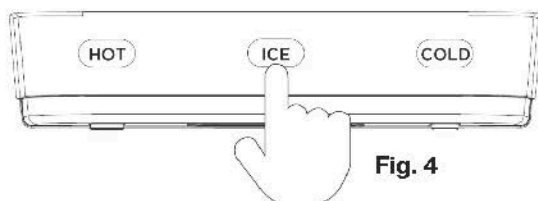

Fig. 4
1. Place a drinking glass or container under the ice cube spout, then press the Ice Dispense button to dispense ice cubes. (see **Fig. 4**)